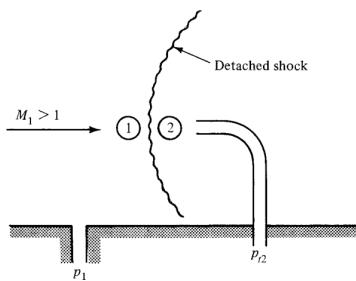

Figure 7.13
- 7.11** A pitot tube is installed in a wind tunnel in the manner shown in Figure 7.13. The tunnel air temperature is  $500^\circ\text{R}$  and the static tap ( $p_1$ ) indicates a pressure of 14.5 psia.